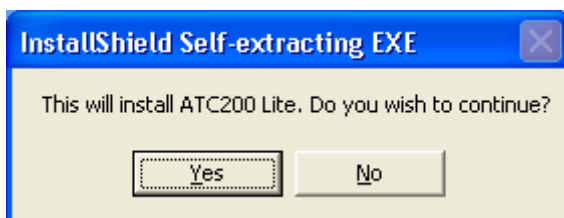

Figure 2-1. Install Shield Initializes.
4. Follow the on-screen prompts, as shown in Figures 2-1 through 2-5, to complete the installation.